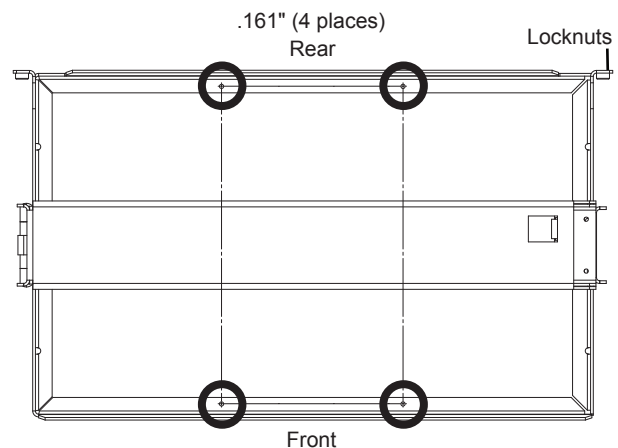

Fig. 1, Mounting Rivet Locations
2. (Optional - Only install the rivets if this is a permanent installation) Using the BBSD as a template, mark the locations of the 4 mounting rivets as shown in Fig. 1, then remove the BBSD. Center punch and drill the locations using the drill and the .161" (#20) drill bit.